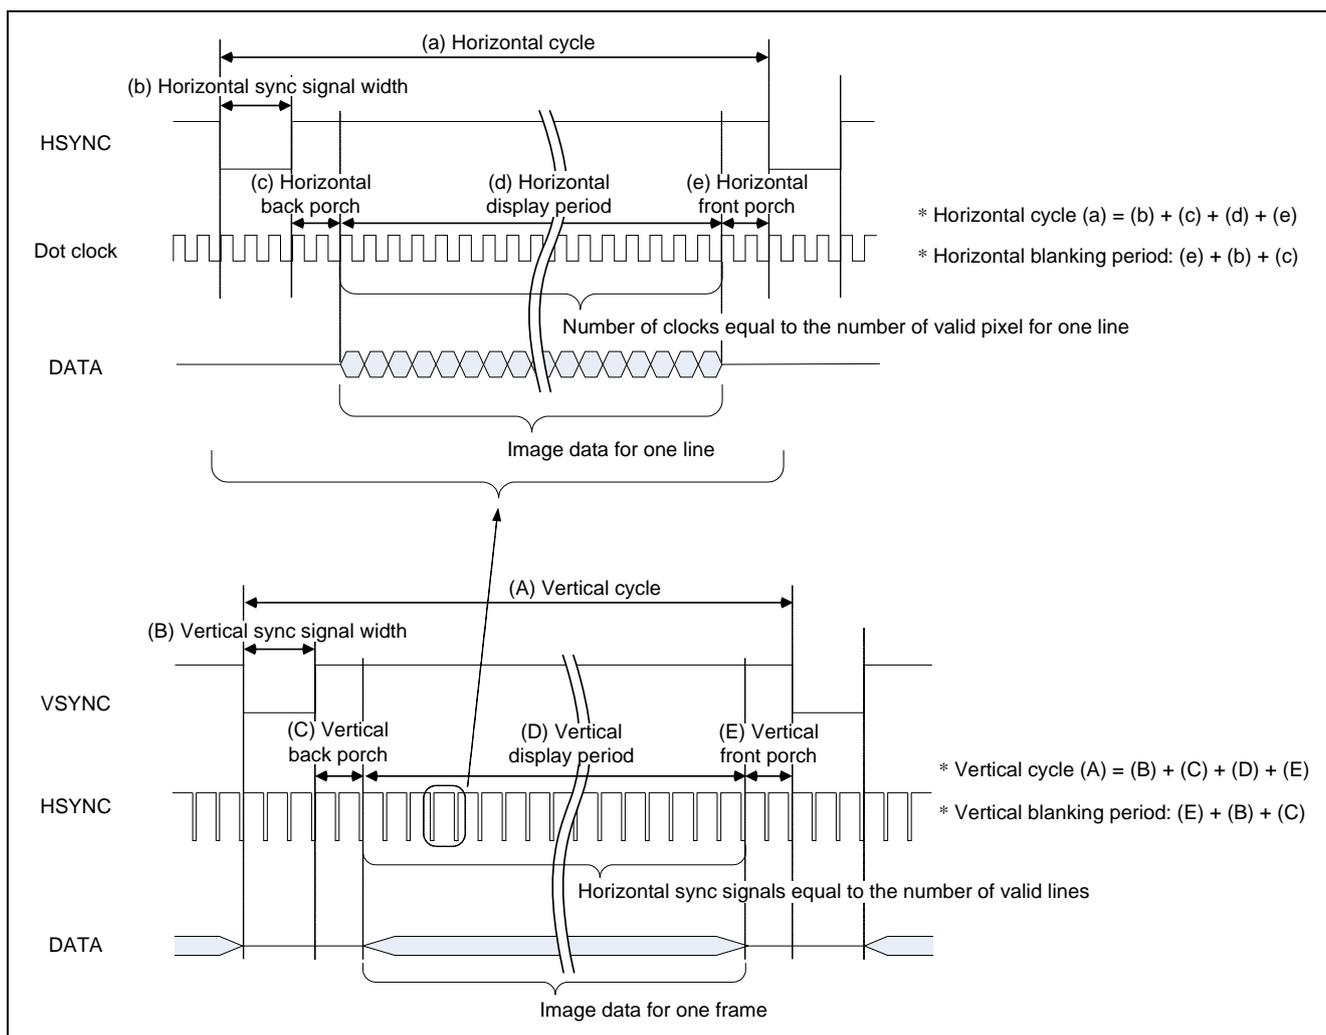
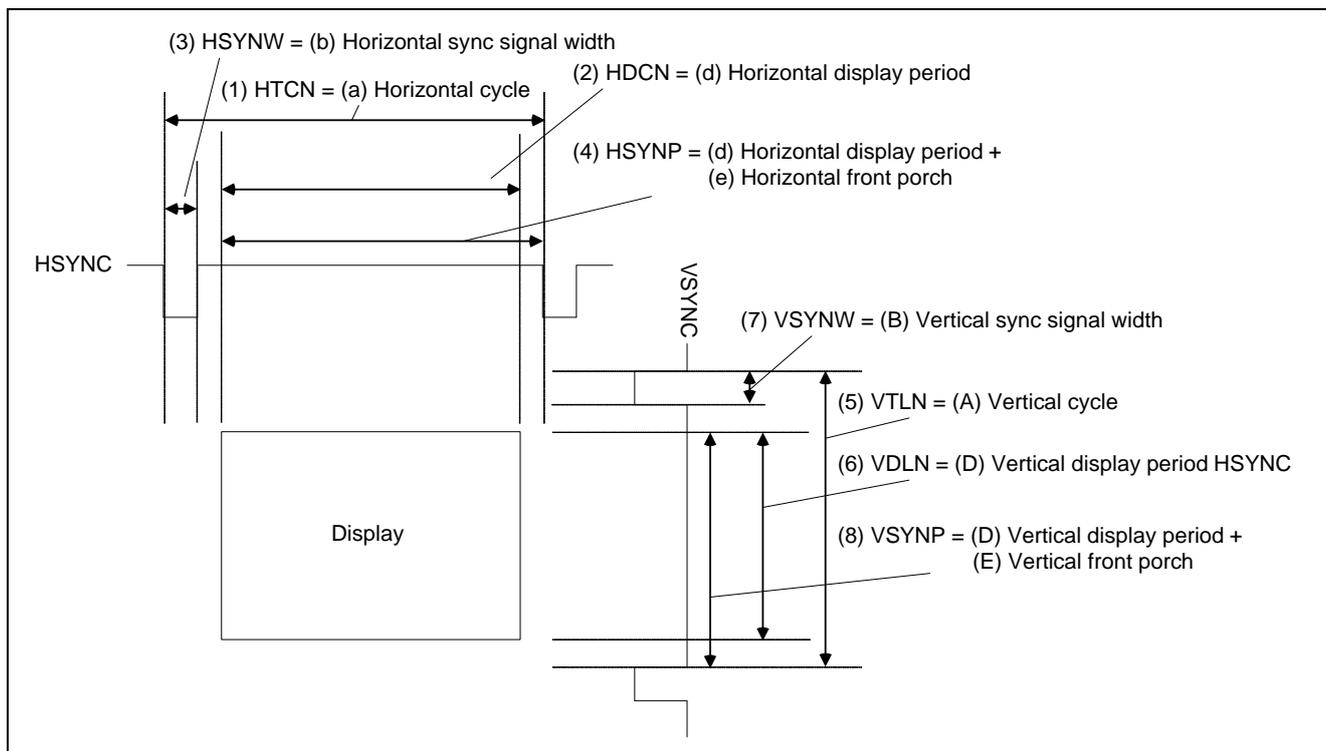

Figure 3 Input of Image Data and Sync Signals
Figure 5 Sync Signal Configuration
The sync signal parameters in figure 5 should be set according to the characteristics (A) to (E) and (a) to (e) in figure 3 of the LCD module used.